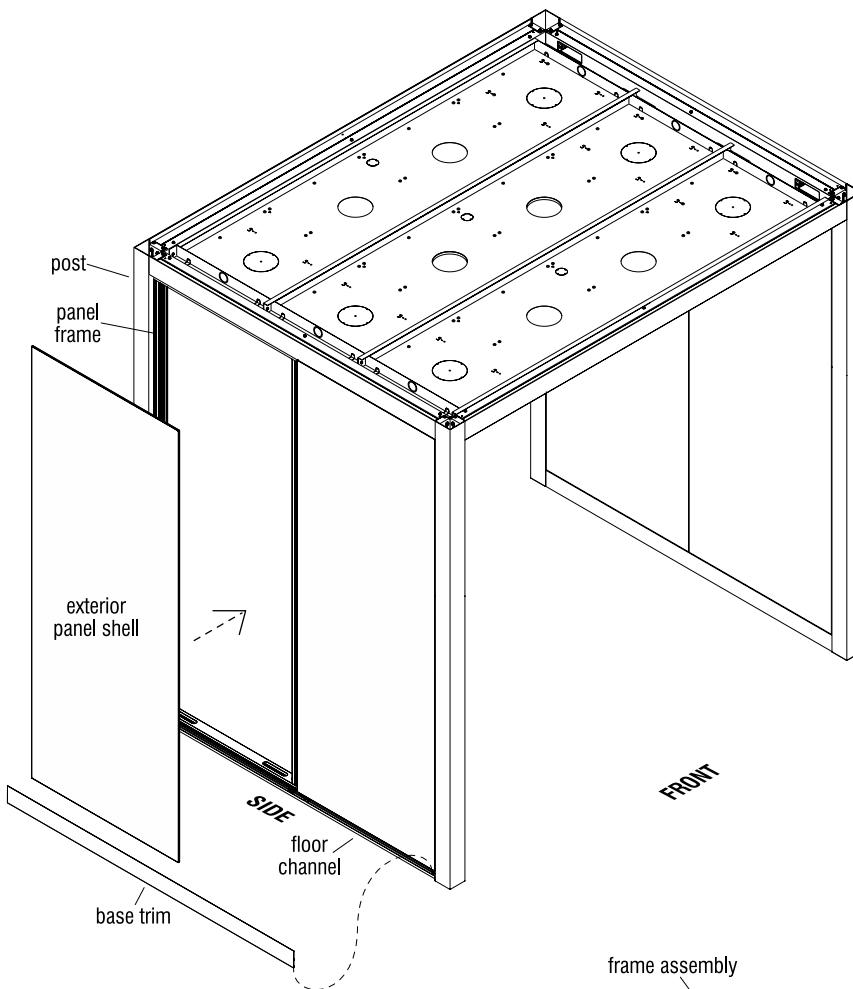

Figure 9
23. To install each panel shell to a frame assembly, position the panel shell squarely against the frame assembly, aligning the mushroom connectors at the perimeter of the panel shell with the corresponding mushroom cavities around the panel frame. Then firmly press around the panel shell to fully seat each mushroom connector into its cavity (Figures 9 & 10).
24. Measure between the posts to determine the size the base trim should be cut to and cut base trim to size (Figures 9 & 10).
25. To install base trim, position the bottom, base trim lip over the edge of the floor channel and press down on the base trim so it sits slightly into the floor channel and flush against the panel shell (Figure 10). Using a base trim installation block (or "cheesecake") and hammer, position the block over the top of the base trim and tap down on the block/trim to seat the trim into the channel. Work carefully along the entire length of the base trim until it is fully seated and uniform (Figures 9 & 10).